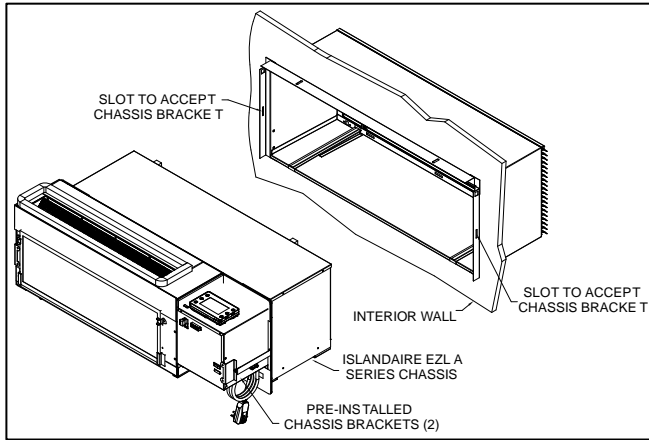

Figure 12. Chassis Brackets
1. Slide the chassis into the wall sleeve until each of the two (2) pre-installed Chassis Brackets (located on each side of the chassis as shown in Figure 12) hook into the slots located on each side of the wall sleeve. Visually confirm brackets are securely latched into the wall sleeve bracket slots on each side.